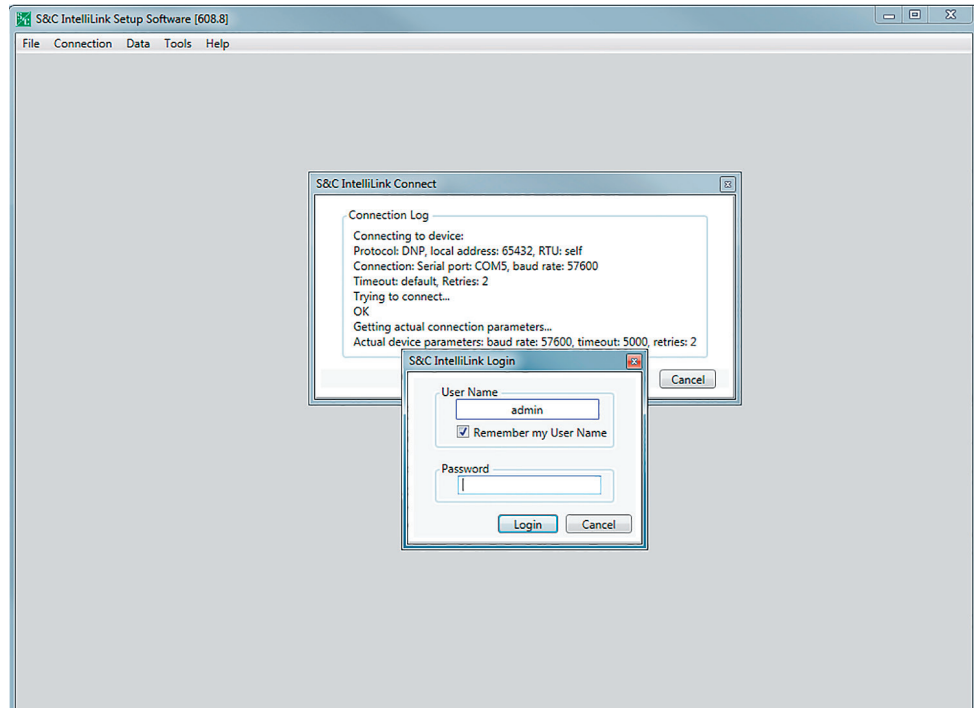

Figure 5. IntelliLink Setup Software Login dialog box.
STEP 7. Log in to the control and follow the dialog instructions. See Figure 5. Do not skip any of the software components unless instructed to do so by S&C Electric Company. Contact S&C Electric Company for the default username and password.